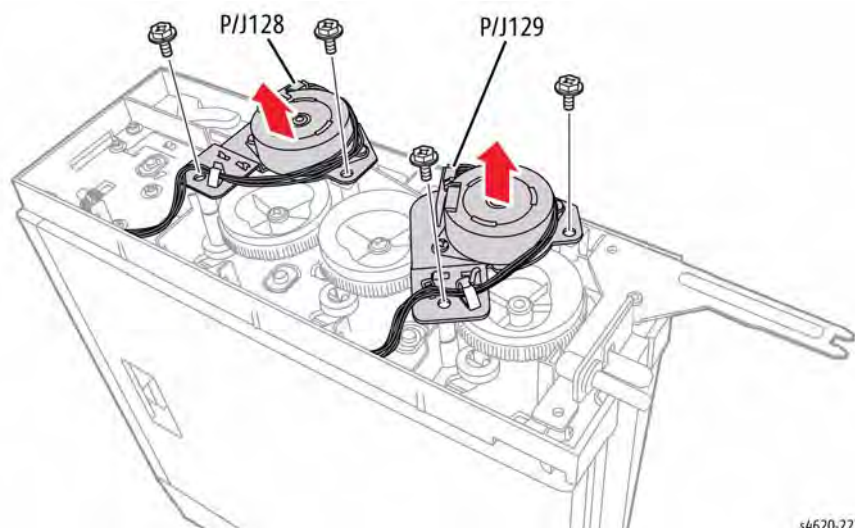

Figure 1 Remove the Diverter Drive Assembly
6. Remove 2 (plastic) screws that secure the assembly to the Mailbox, Figure 1.